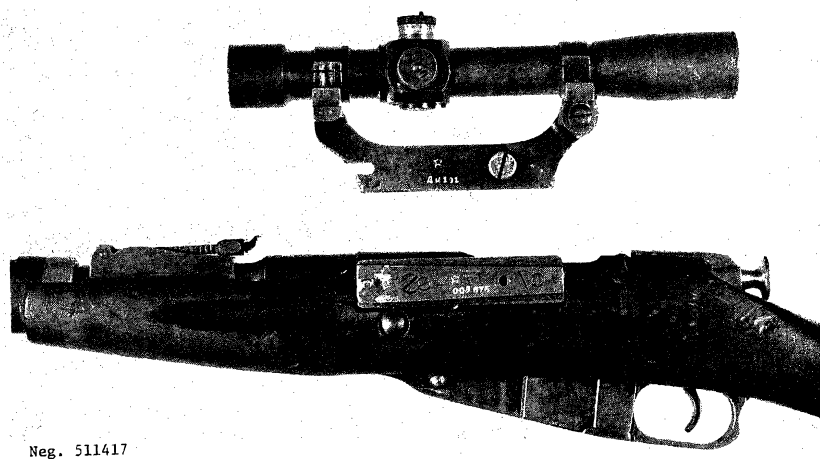

Figure 118. Model 1891/30 Sniper's rifle w/PE telescope.
b. These rifles can be fitted with the 3.5-power PU telescope or the 4-power PE telescope (fig 118). The PU is the more common telescope. These telescopes have large pointed post reticles and rather coarse adjustments.
c. The PE telescope can be adjusted for windage zero by means of the screw in the rear mount (fig 118).